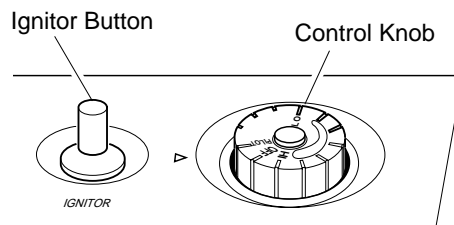

Figure 21 - Control Knob In The OFF Position
- Wait five (5) minutes to clear out any gas. Then smell for gas, including near the floor. If you smell gas, **STOP!** Follow "B" in the safety information, column 1. If you don't smell gas, go to the next step.
- Turn control knob counterclockwise to PILOT position. Press in control knob for five (5) seconds (see Figure 21).